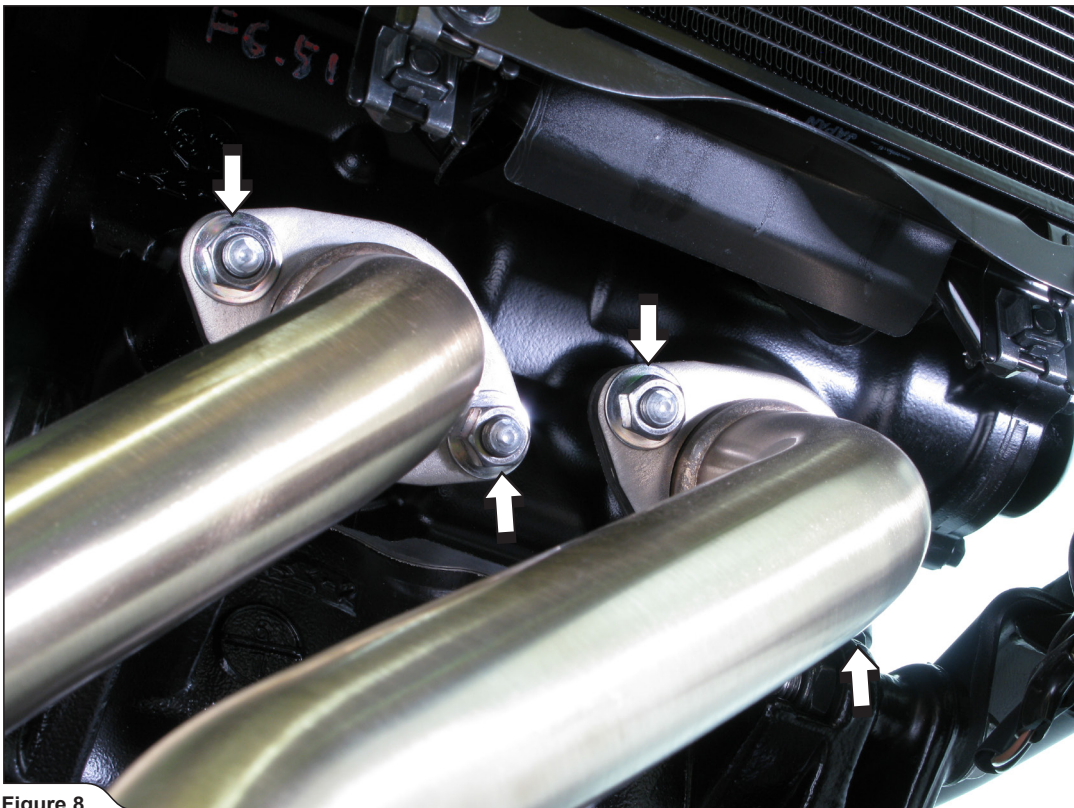

Figure 8
7. Loosen the mark nuts from the flanges of the header tubes (do not remove them!) (Figure 8).